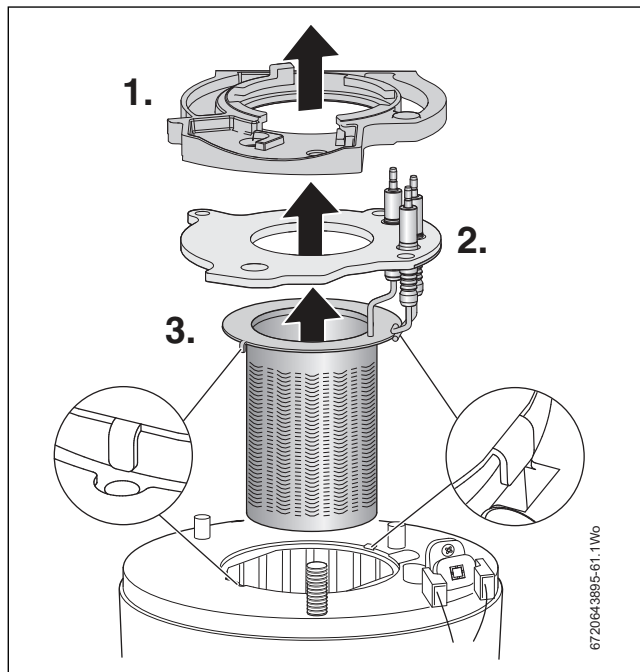

Fig. 91 Electrode assembly and burner
Refer to figure 91.
- Ensure that burner tabs, as shown in figure 91, fit correctly their respective locations.